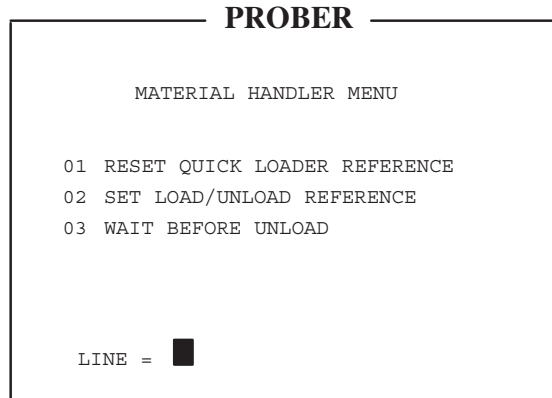

FIGURE 4-5: MATERIAL HANDLER MENU
- From the Prober Mode, press the < SET OPTION > (< F3 >) key to produce the Set Option Menu. Select < 1 > for Line 01, AUTO-LOAD SWITCH. Press < 1 > to select enable. The Material Handler Menu appears (Figure 4-5).
4.4.1.1 MATERIAL HANDLER MENU (Figure 4-5)